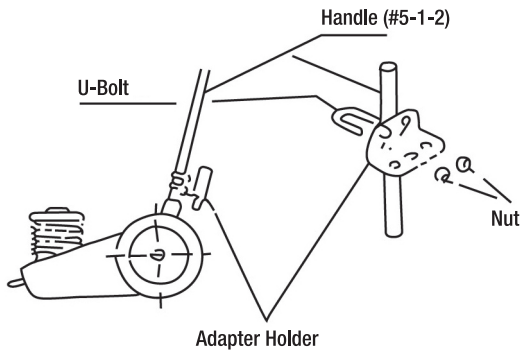

Figure 2
2. Adapter holder needs to be assembled the handle (#5-1-2) as shown in Figure 2. Use 2 bolts, 2 nuts and 2 spring washers to complete this assembly.